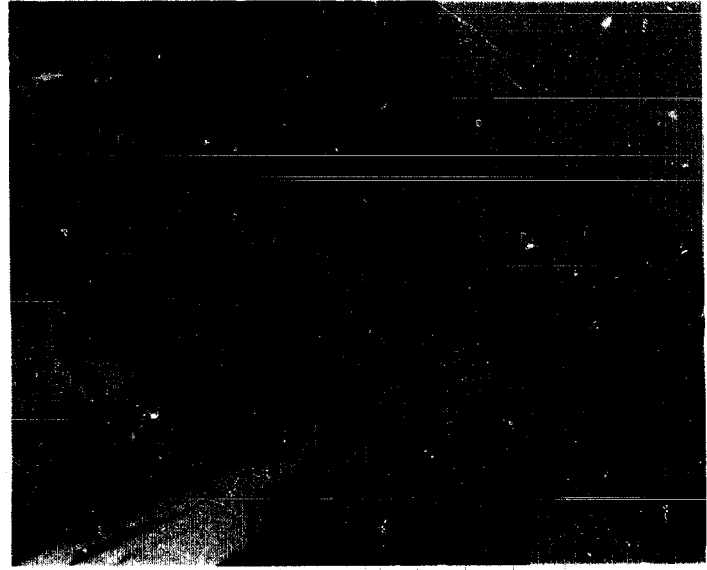

FIGURE 10
12. Move the manual operator handles toward the linear actuators. Replace the end screws and tighten to 120 in. lb. (13.6 N•m) using a screwdriver as a wedge to prevent the rod end assembly from twisting in the handle. See Figure 10.